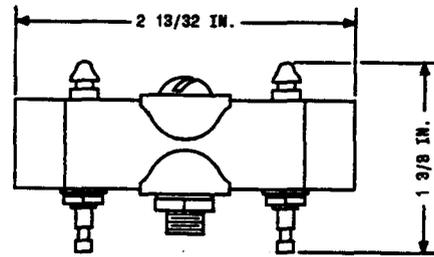

Figure 43—33-Type Connecting Block
4.19 The 33-type connecting block (Figure 43) is required to provide 24 V and/or 48 V battery and ground supplies when distributing frames are extended. The 33-type provides central office testing supply. One connecting block is required for each supply. The 33-type mounts on a terminal strip. Wooden blocks are required when mounting the 33-type in unequipped terminal strip positions. The 33-type connecting block is not required on new distributing frame systems. Test/talk system ED-6C110-10 will be provided on new systems.